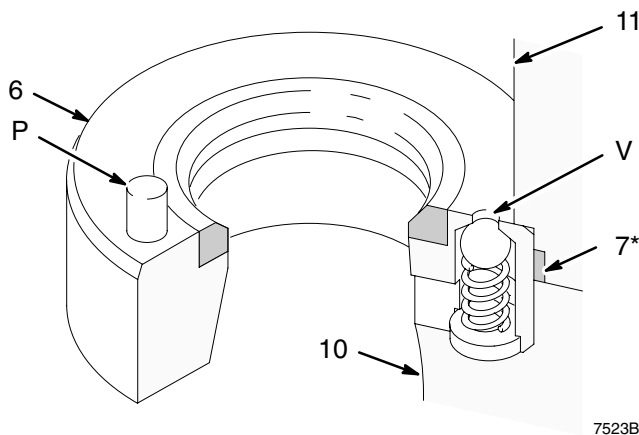

Fig. 14
4. Install the relief valve intake seat (6) in the left side of the lower housing (11), as viewed in Fig. 15 (the arrow on label 35 points to the correct location). The pin (P) on the seat must point up into the housing. The pin limits the positioning of the seat, ensuring that the vent hole (V) is not blocked by part of the housing. Refer to Fig. 14.
5. Install the intake seat without a relief valve (34) in the right side of the lower housing (11).
- 2 Relief valve intake seat must be installed on the left side of the housing (11), as shown. Orient the seat as shown in Fig. 14.
- 3 Intake seat without relief valve. **Do not install the relief valve seat (6) on this side of the housing (11).**
- 10 Chamfered side must face ball (5).